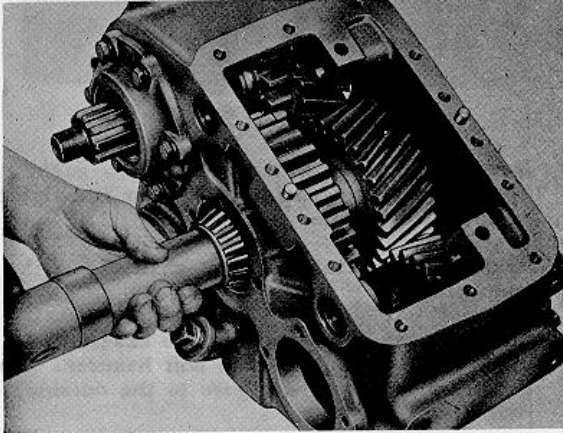

Fig. 34.
22. Drive front bearing onto idler shaft. Hold shaft rigid to avoid damaging rear bearing and cup (Fig. 34). Install bearing retainer plate and capscrews. Lock wire.